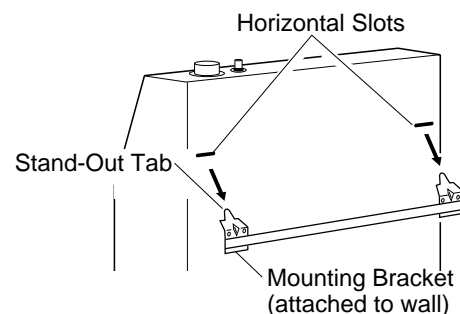

Figure 11 - Mounting Heater Onto Mounting Bracket
2. Place heater onto mounting bracket. Slide horizontal slots onto stand-out tabs on mounting bracket (see Figure 11).